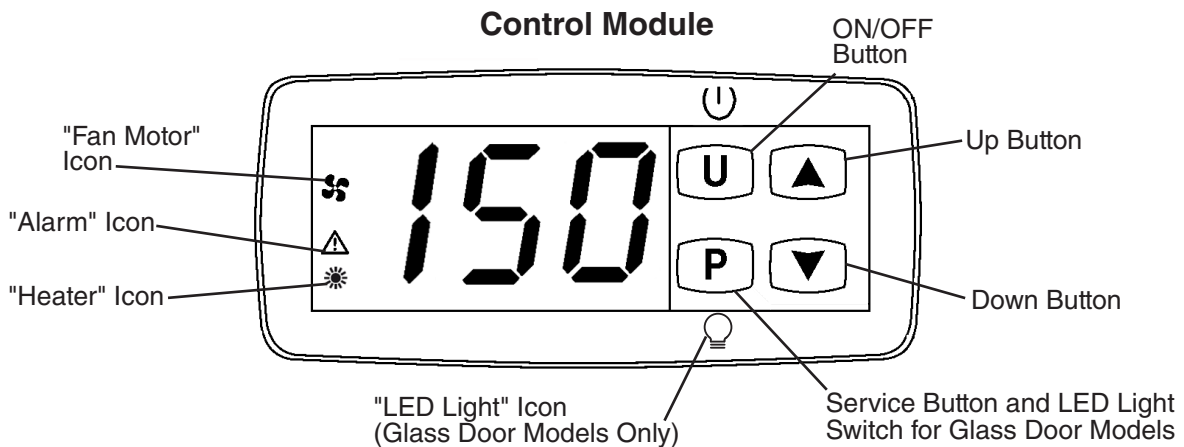

Fig. 5
The cabinet temperature is displayed on the control module. See Fig. 5.
- 2) Press and hold the "U" button on the control module until a dot appears in the display, then unplug the appliance from the electrical outlet. See Fig. 5.